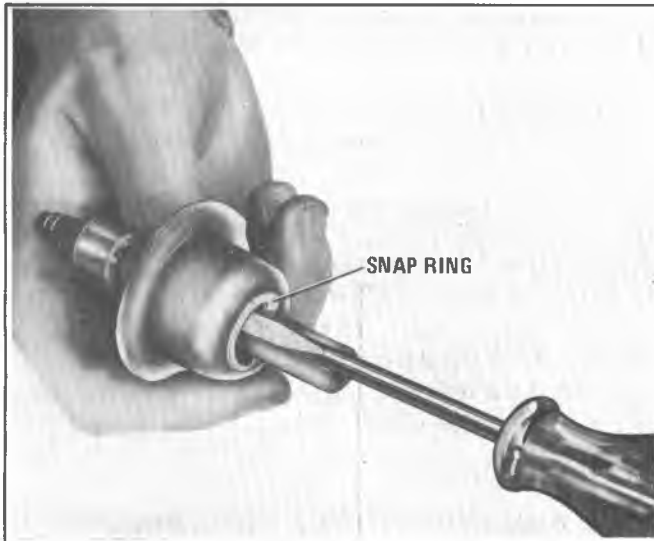

Figure 7A6-223 Installing Intermediate Servo Spring Retainer on Apply Pin
1. Install retainer on band apply pin (Figure 7A6-223).
2. Install snap ring on band apply pin (Figure 7A6-223).